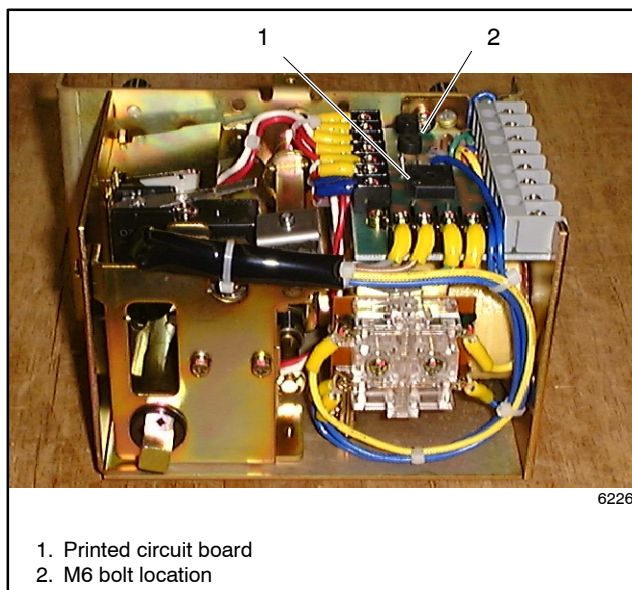
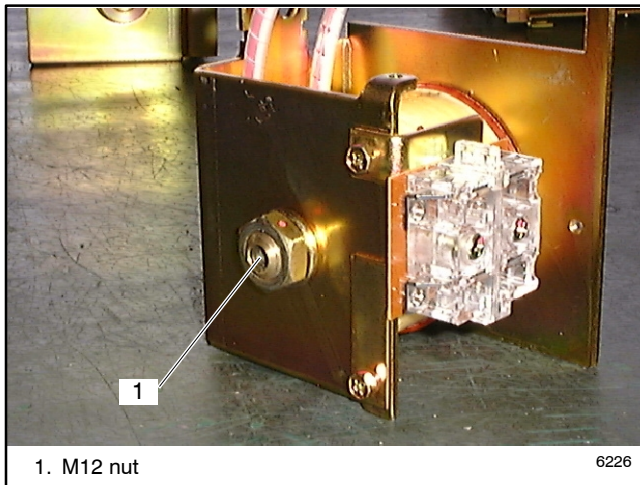

Figure 8-16 Printed Circuit Board and M6 Bolt (for closing coil)
Figure 8-17 Closing Coil with Frame, 100-400 Amp Models
5. Remove the printed circuit board. See Figure 8-16 and Section 8.3.3.
6. Loosen the M6 bolt and remove the frame with the coil. See Figure 8-16 and Figure 8-17.
7. Loosen the M12 nut and replace the closing coil. See Figure 8-17.